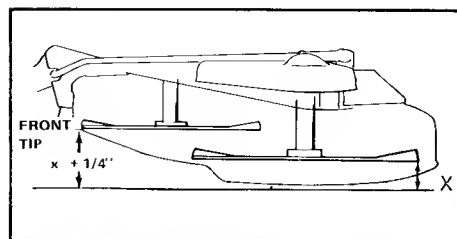

Figure 42. Levelling Mower - 42"
4. Measure the distance from the front tip of the center blade to the ground, and note that measurement. (See figure 42.)
5. Measure the distance to the ground from the rear tips of the left and right blades. Compare these measurements with the measurement from the front tip of the center blade. The front tip of the center blade should be 1/4 inch (6 mm) higher than the rear tips of the side blades (figure 42).